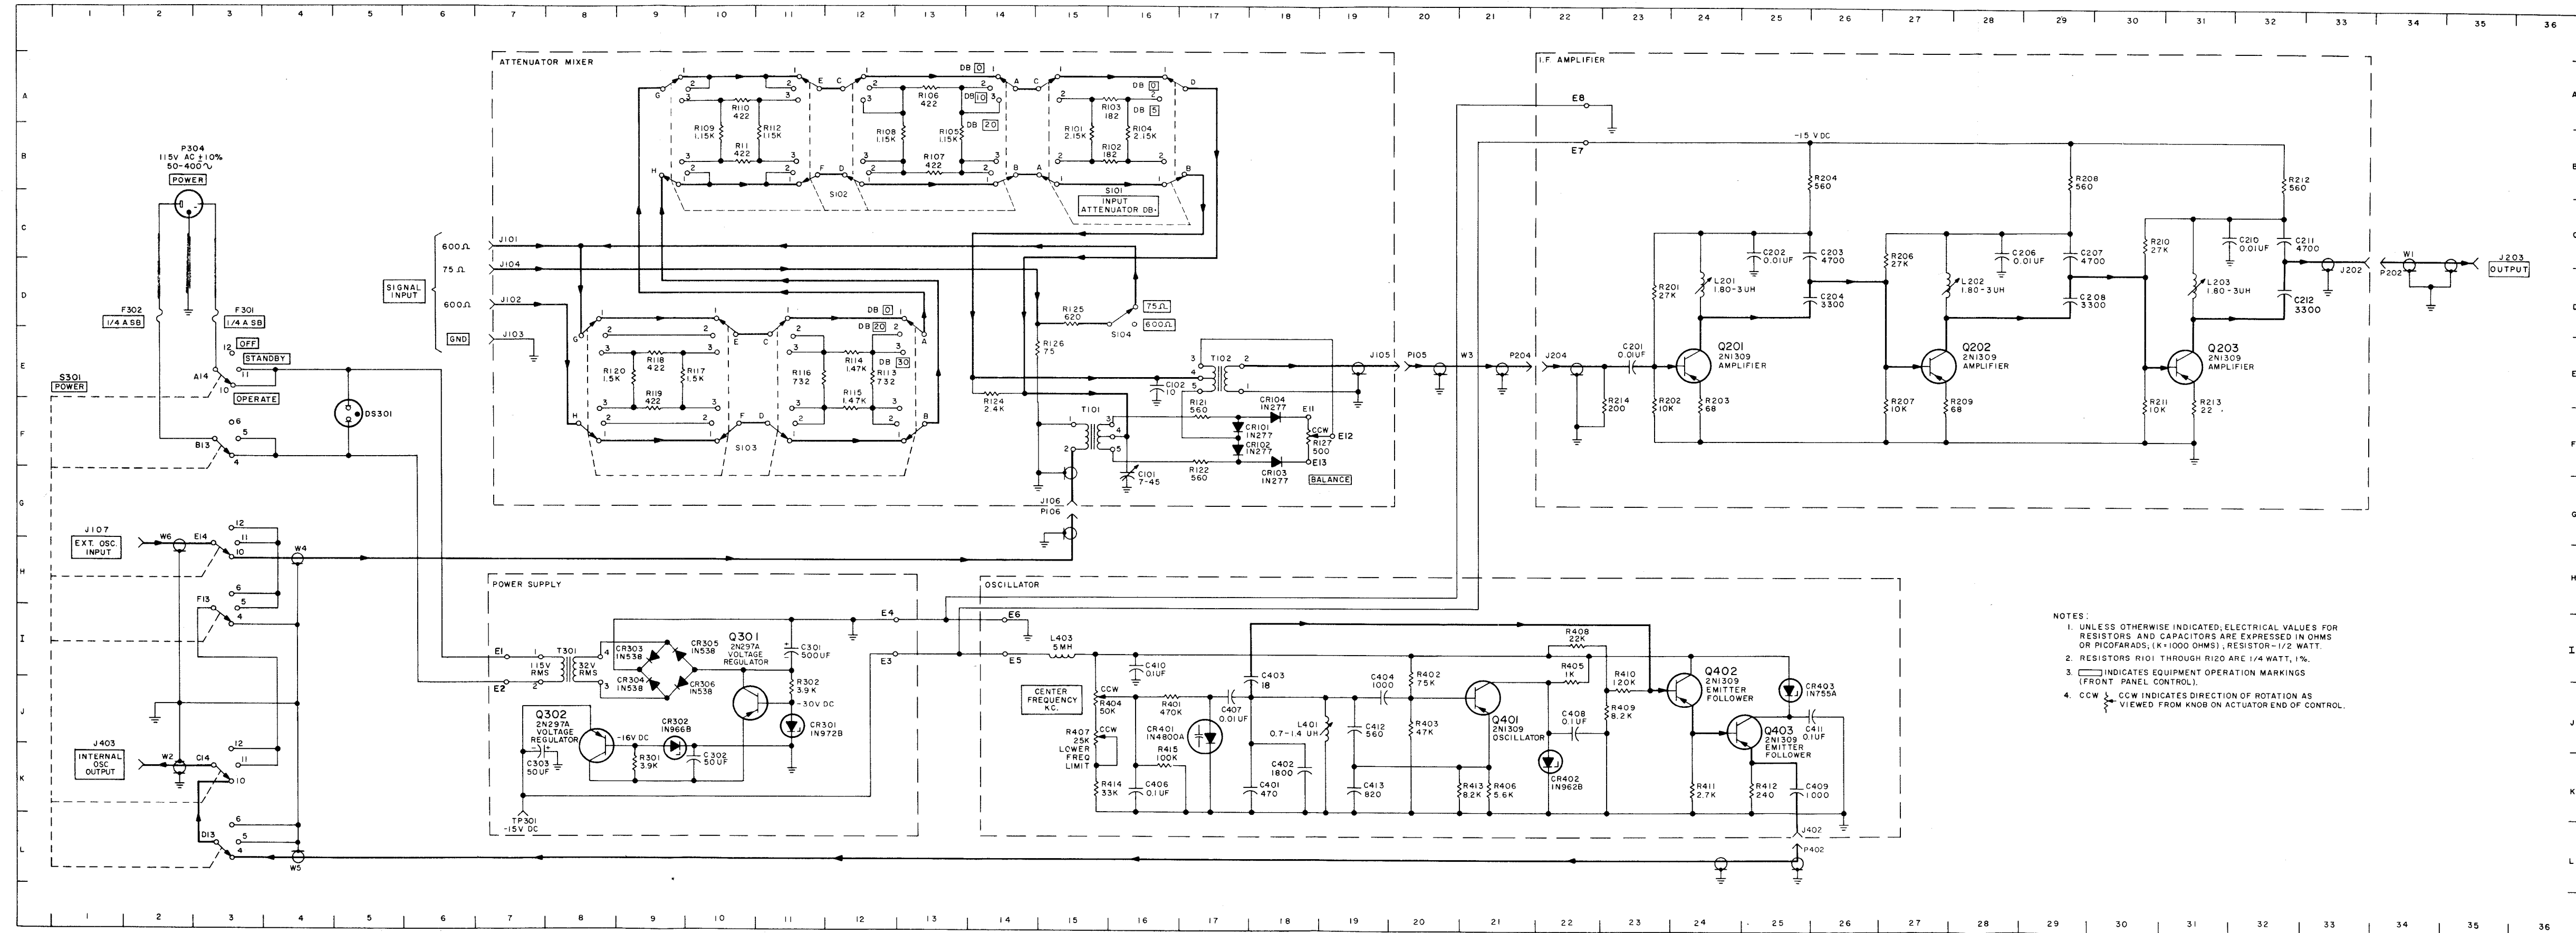

Figure 5-1. Static Frequency Converter, Overall Schematic Diagram
b. OVERALL SCHEMATIC DIAGRAM. - Figure 5-1 is an overall schematic diagram of the equipment. The major signal paths are indicated by heavy lines and the direction of signal flow by arrows.